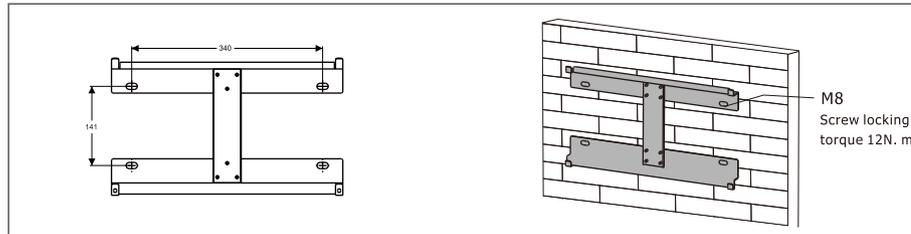

Figure 3.4-1 Install Inverter hanging plate
Step 1. Please use the mounting bracket as a template to drill 5 holes in the right positions (10mm in diameter,and 80mm in depth). Use M8 expansion bolts in accessory box and fix the mounting With a 12mm drill bracket onto the wall tightly.The installation of inverter support is shown in Figure 3.4-1.